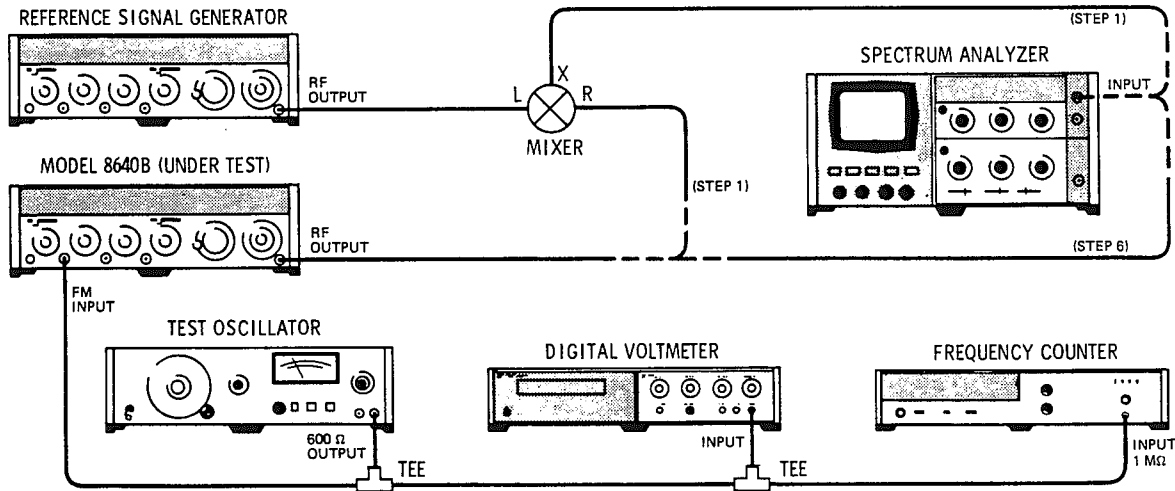

Figure 4-26. FM Sensitivity and Accuracy Test Setup
1. Connect equipment as shown in Figure 4-26 (with test Signal Generator connected to mixer, and mixer connected to analyzer) after setting test generator's controls as follows: